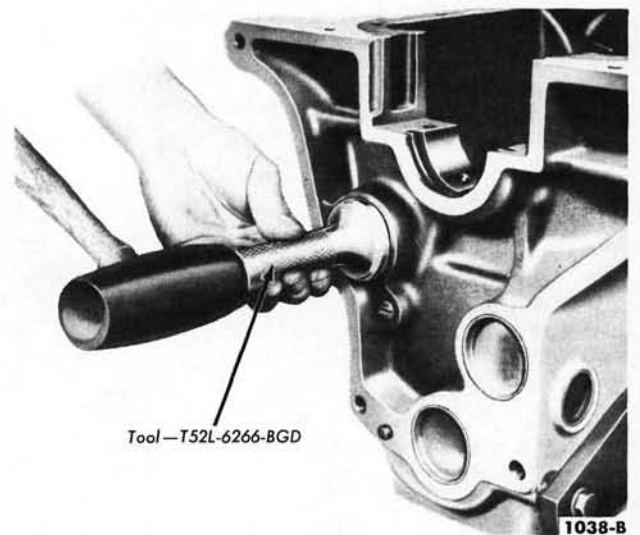

FIG. 32—Camshaft Rear Bearing Bore Plug Installation
3. Clean the camshaft rear bearing bore plug recess thoroughly. Coat the flange of a new plug with water resistant sealer and install it with the flange facing out (Fig. 32). Drive the plug in until the flange is flush or slightly below the casting surface. Install the camshaft and related parts. Install the engine in the chassis.